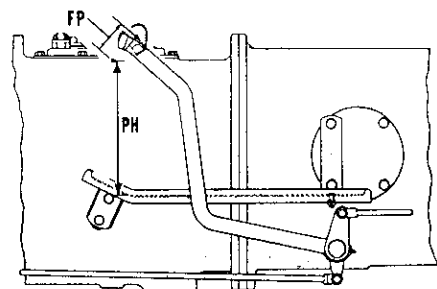

Fig. 172—Drawing showing free pedal (FP) and pedal height (PH) measurements for double clutch equipped tractors.
On early double clutch models which have clutch release shaft arm with two holes, both pedal height and free play must be adjusted. Refer to Fig. 171 and proceed as follows: Loosen locknut (1) and carefully depress clutch pedal by hand until free play is just removed. Hold pedal position and back out stop screw (2) until it contacts housing stop. Refer to Fig. 172 and measure pedal height (PH) from footrest. Pedal height should be 9¼ inches for early models or 8½ inches for late models. If it is not, loosen clevis locknut (6—Fig. 171), remove clevis pin (4) and turn clevis as required until specified pedal height is obtained. After adjusting pedal height, turn stop screw (2) until free play, measured at pedal pad, is 1½ inches on early models or 1¼ inches on late models.